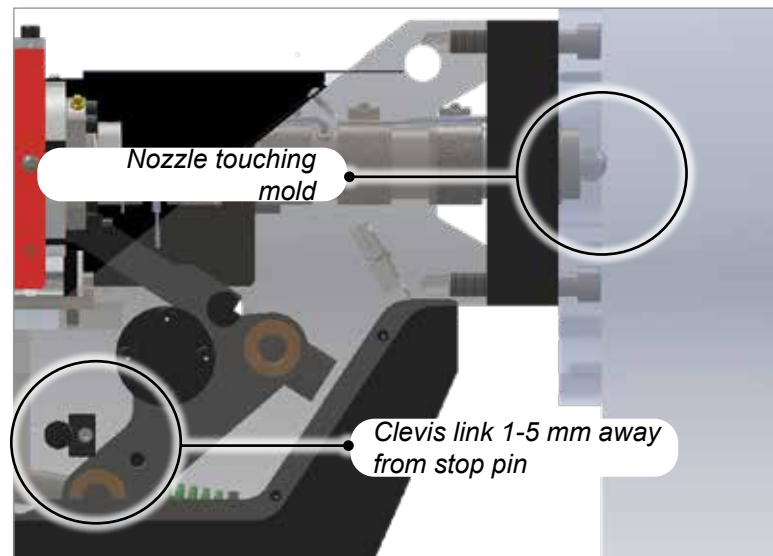

Figure 10-2 Nozzle touching mold
7. Use the adjuster screw to move the nozzle forward until it just touches the manifold inlet as shown in Figure 10-2.